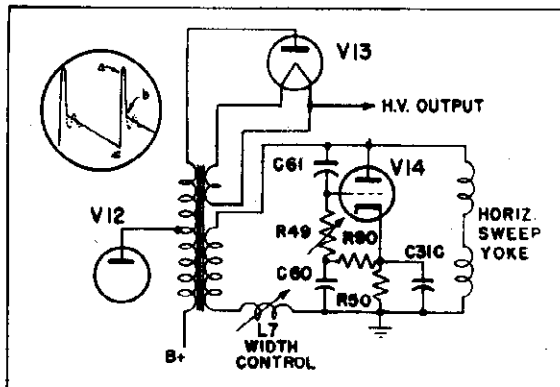

Fig. 6. Horizontal Sweep Output
6. HORIZONTAL SWEEP OUTPUT (See Figure 6)—The horizontal sawtooth voltage generated by the multivibrator, V11, is shaped and then amplified by a Type 807 tube, V12. The output of this tube is coupled to the horizontal deflection yoke through an impedance matching transformer, T9. An oscillatory voltage, as shown in the dotted line in the wave shape at the upper left of Figure 6, which results from the rapid retrace in transformer T9, is removed by the damping tube, V14. This tube is a triode Type 6AS7 and by its use the transient may be dampened, linearity controlled and the positive overshoot voltage retained for use in the high voltage supply. The linearity of the horizontal trace is controlled by varying the voltage wave shape applied to the grid of V14 by potentiometer R49. The horizontal size is varied by the adjustable iron core inductance, L7, which is in series with the output to the yoke.
This "kick" voltage is shown in the wave shape shown as a-b in Figure 6. This voltage is generated in the primary winding and is further increased by an additional winding added to the transformer which connects to the rectifier tube plate of V13. The rectifier tube, V13, is a Type 8016 which derives its filament voltage from the horizontal sweep transformer T9 by a single turn around the transformer. Because of the high frequency which is rectified, a 500 mmf capacitor is more than sufficient for filtering purposes.